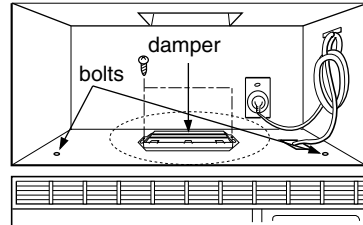

Figure 30
6. Roof-vented installation: Align the damper/duct connector with the vent on top of the microwave oven. Damper should be on top of tab. Use two tapping screws (bright-colored) to attach damper/duct connector to the microwave oven. See Figure 30.